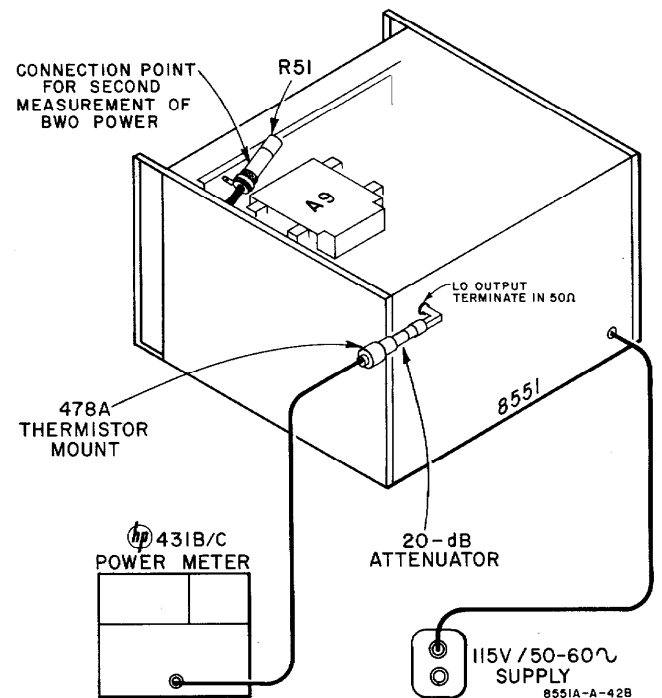

Figure 5-3. Setup for Measuring BWO Power at 8551 Rear Panel Output
a. Connect a 20-dB RF attenuator to LO OUTPUT-TERMINATE IN 50 OHM connector on 8551 rear panel. Connect power meter and thermistor mount to attenuator (see Figure 5-3).